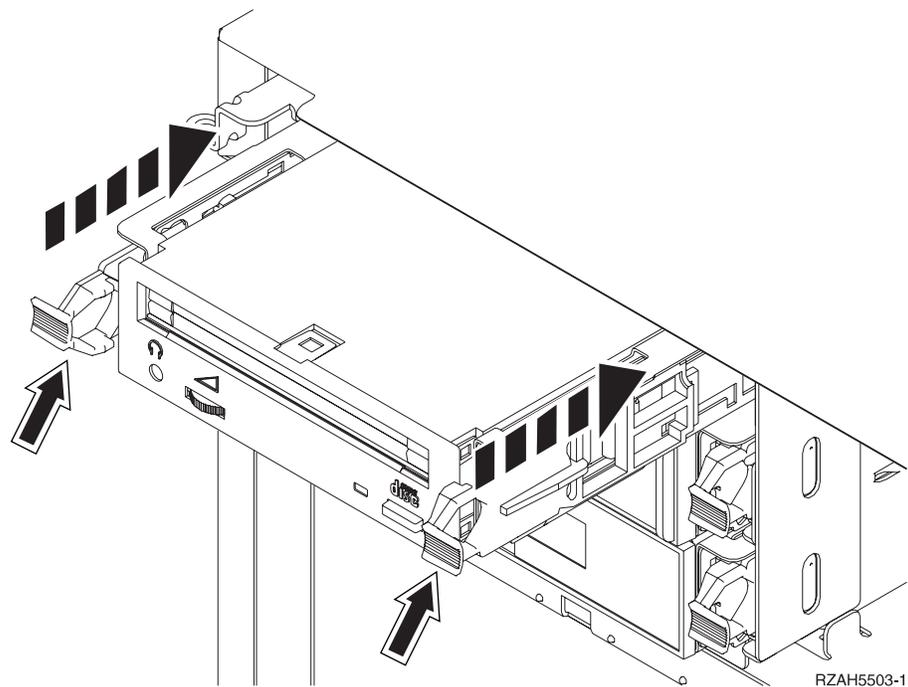

Figure 4. Installing removable media
- ___ 14. Refer to Figure 4 and align the device with the next available slot.